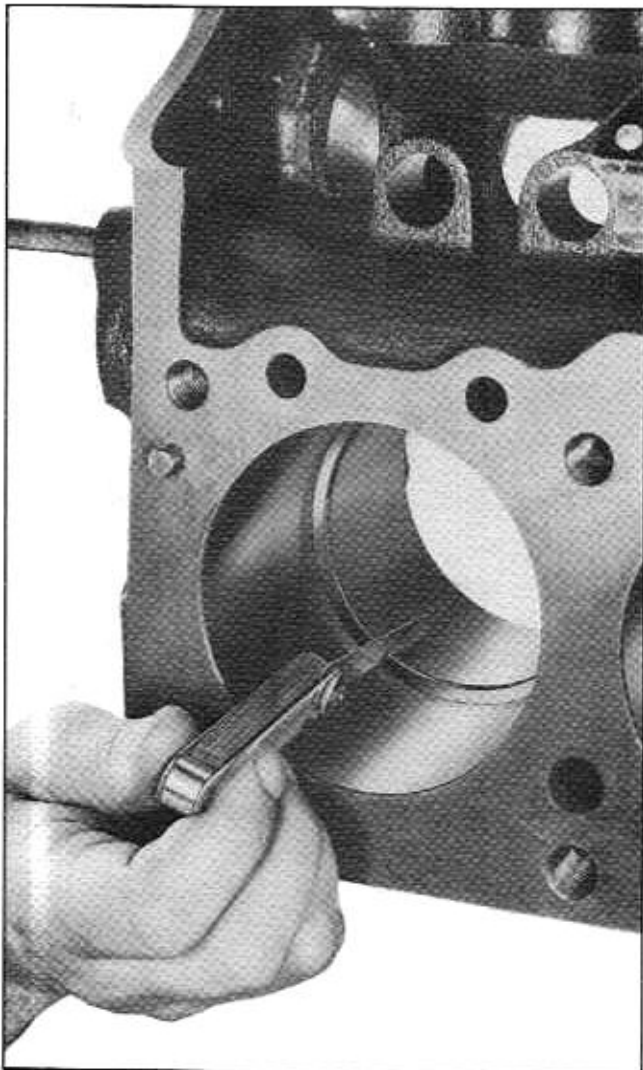

Fig. 6-68 Checking Ring Gap
3. Measure gap between ends of ring with feeler gauge (Fig. 6-68). Gaps should be as follows: